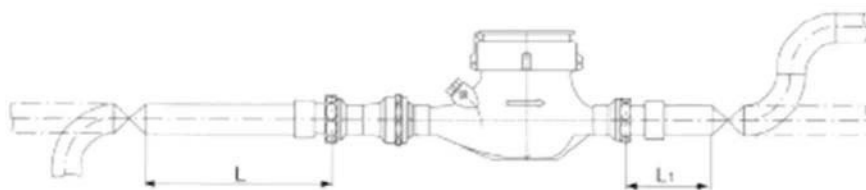

Fig.1
6.6. The pipe in the installation location should be shaped so that there is no possibility for an air pocket to be created in the water meter. Water meter has to be entirely filled with water, so the water pipe after the water meter cannot decline (Fig. 1).
However, in case of installing devices after a double elbow, non-return valve or a pump, provide a straight pipe section $L=5 \times DN$ (device nominal diameter) before the device (U5), and after the device $L1=3 \times DN$ (D3) (Fig.1).